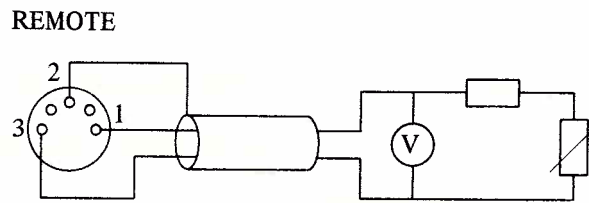

Fig. 7. Remote programming using a potentiometer in series with a fixed resistor
**Programming with a Potentiometer in Series with a Resistor.** This combination makes it possible to obtain a limited control range inside the voltage range (Fig. 7). A  $10\text{ k}\Omega$  resistor in series with a  $1\text{ k}\Omega$  potentiometer, for example, will provide a voltage range of  $10 \dots 11\text{ V}$ .